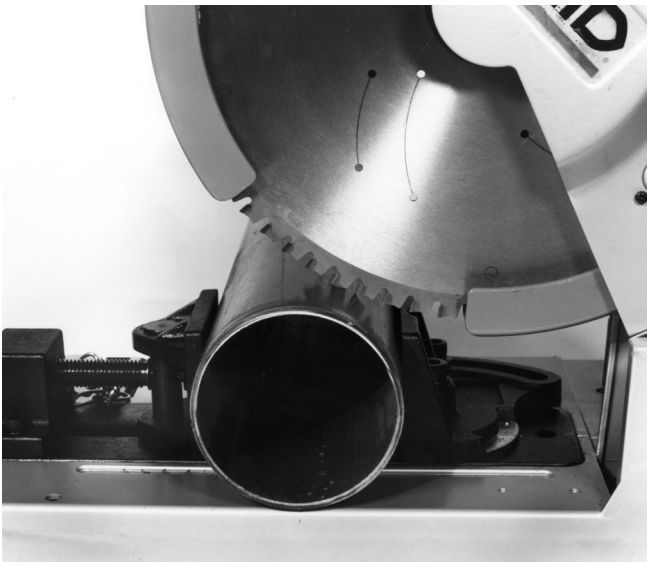

Figure 5
- a.) For 90°, place the workpiece between the vise plate and fence guide properly and be sure to tighten the vise. (Figure 5)